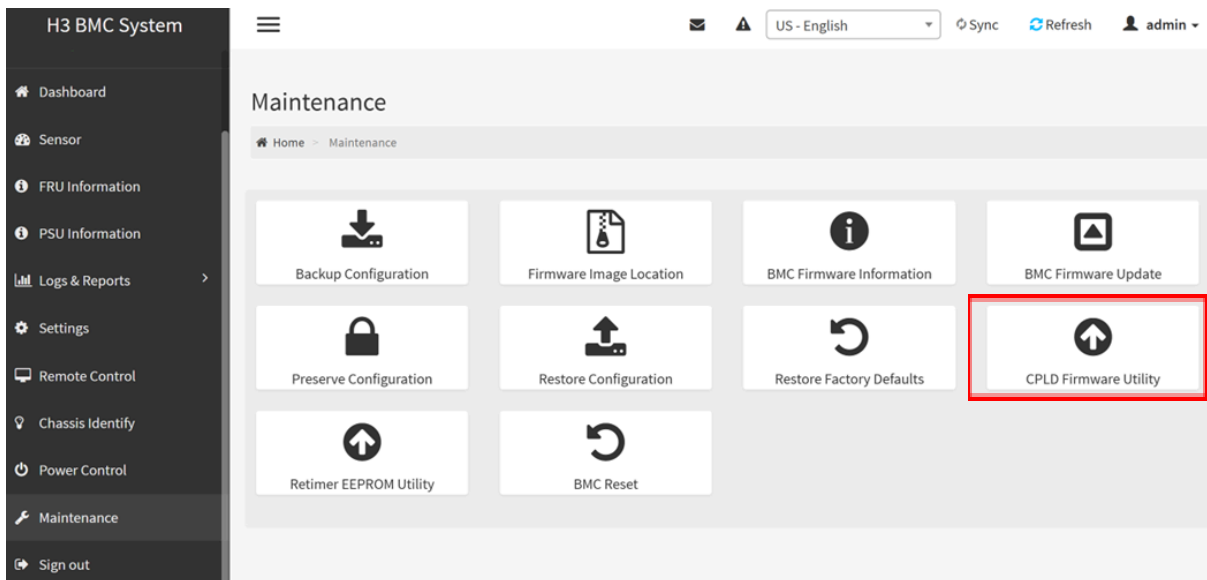

Figure 105. Accessing the CPLD Firmware Utility page.
- A. Under the Maintenance section, click on CPLD Firmware Utility (refer to Figure 105).